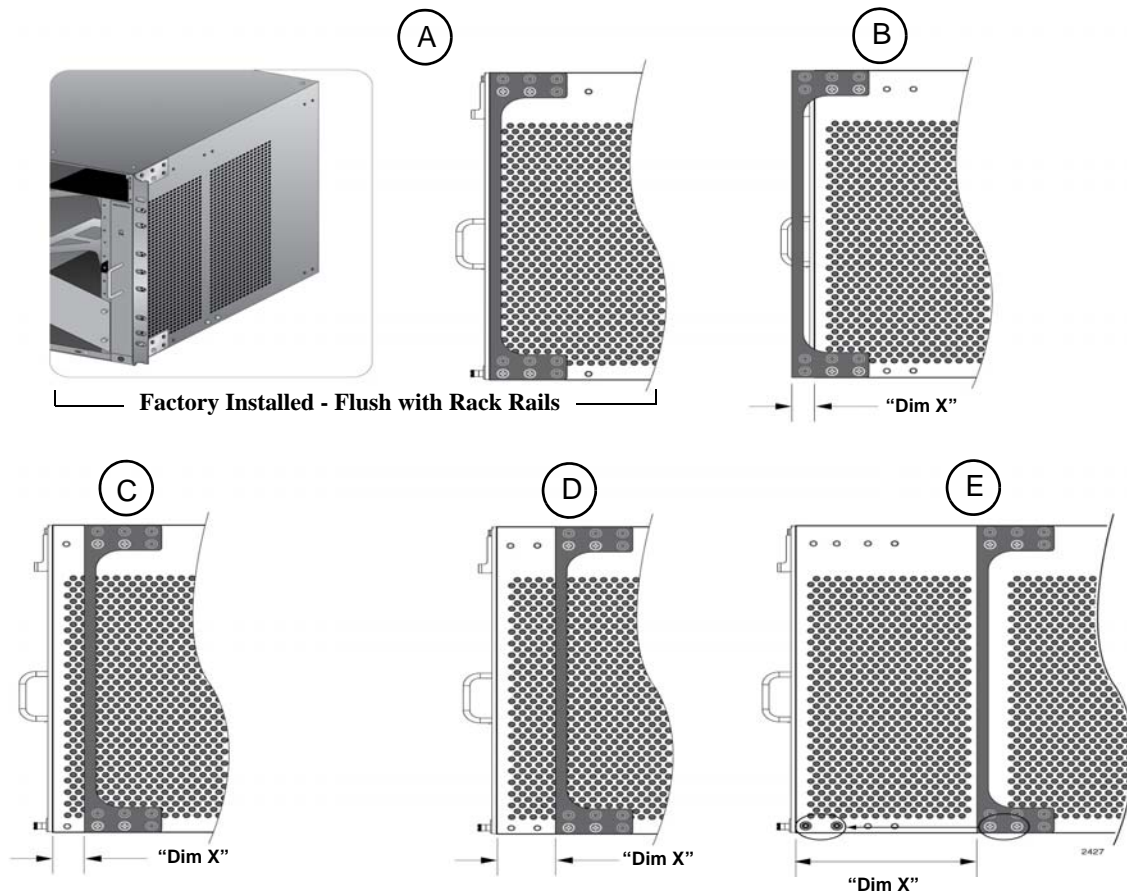
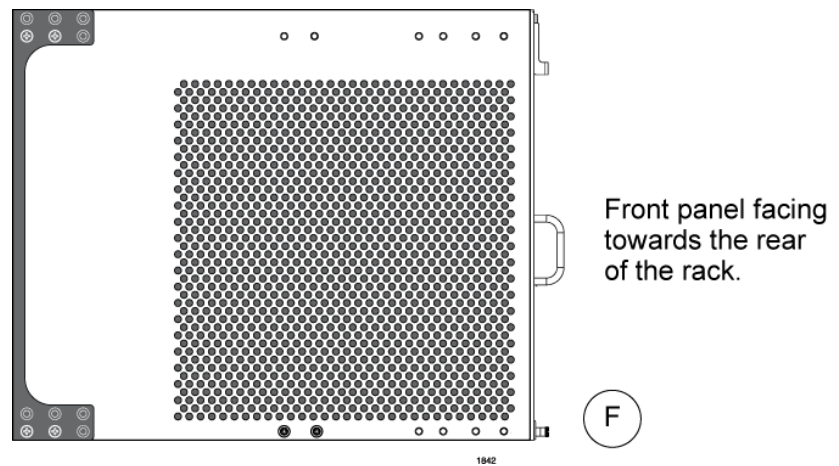

Figure 32. Rack Mounting Bracket Locations
Figure 33. Rack Bracket Locations for Reverse Position of Chassis
You adjust the brackets by removing them and re-installing them in different positions on the sides of the chassis. The different bracket positions are listed in Table 22 and illustrated in Figure 32 on page 97 and Figure 33 on page 97. Please review the following information before moving the brackets:
- ❑ To install the rack mount brackets in position “E,” you have to remove the two chassis screws from the bottom-middle section of the chassis and re-install them in front where the rack mount bracket screws were originally, as shown in Figure 32 on page 97.
- ❑ The dimension (X) between the front panel and the rack rails is given for each rack mounting bracket position in Table 22.